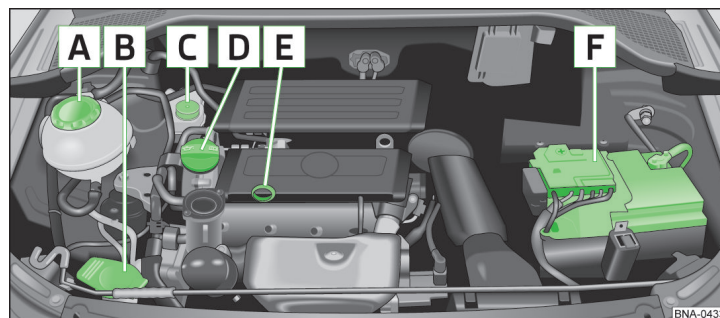

Fig. 77 Arrangement (example) in the engine compartment
- Unscrew the cap of the engine oil filler opening **D** » fig. 77 on page 76.